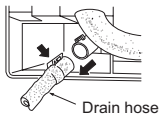

Fig. 2
- 3) Pull out the drain hose at the rear left of the indoor unit. (Fig. 2)